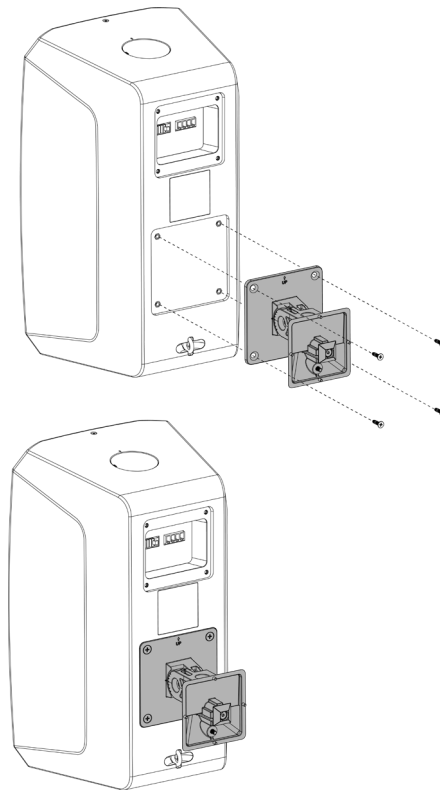

Figure 12
Place the flat end of the swivel bracket onto the matching VESA connector on the back of the loudspeaker. Use the UP arrow printed on the swivel bracket to properly align the bracket and connector. Use the four (4) included screws to secure the plate to the loudspeaker (Figure 12).